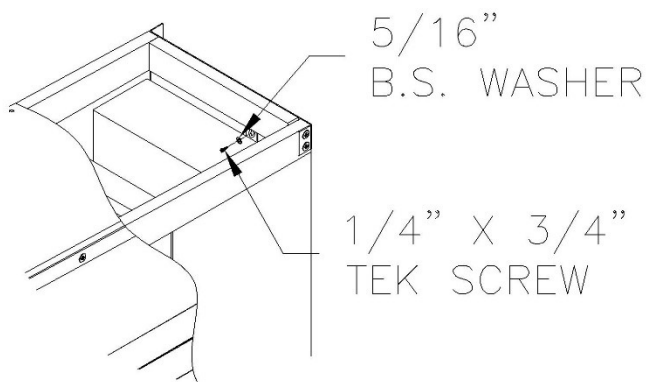

FIG. 13
- v. Secure verticals to header side supports by using supplied 1/4" tek screws & 5/16" washers through the tabs at the top corners of vertical pads (Fig. 13).